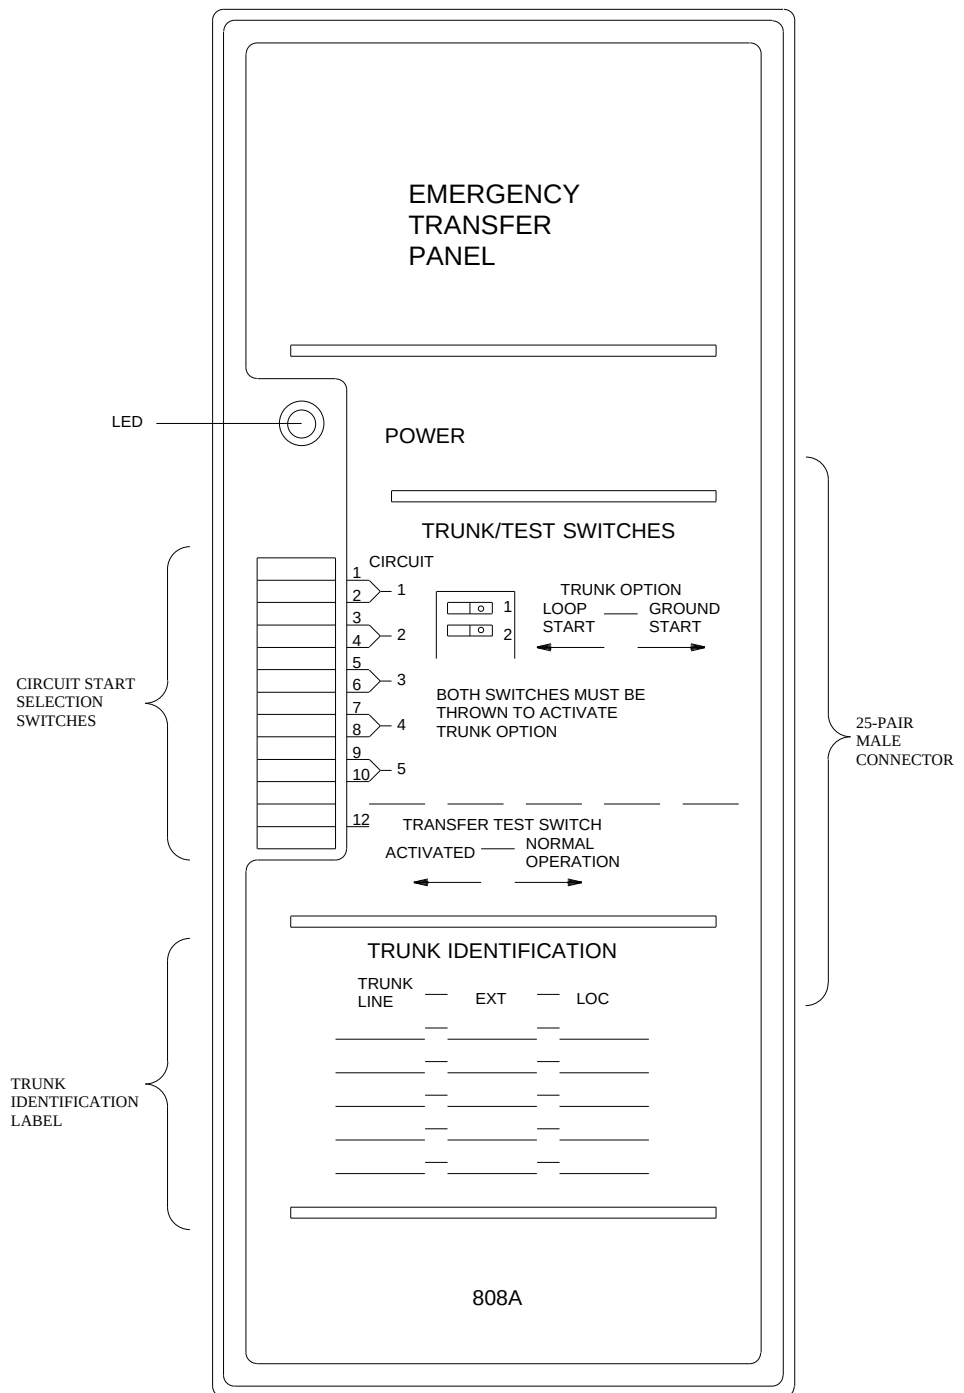

Figure 8-50. 808A Emergency Transfer Panel
2. Locate the circuit start selection switches (see Figure 8-50). These are the first 10 two-position switches on the left side of the ETP. They are used to set each of the five incoming trunk lines to either loop start or ground start. Two switches are used for each circuit; switches 1 and 2 are used for circuit 1, switches 3 and 4 are used for circuit 2, and so forth (see Table 8-9). For loop start, set the switches to the **left**. For ground start, set the switches to the **right**.
- Place the test switch (switch 12) in the NORMAL OPERATION position (see Figure 8-50).
- Place the test switch (switch 12) in the ACTIVATED position (see Figure 8-50).